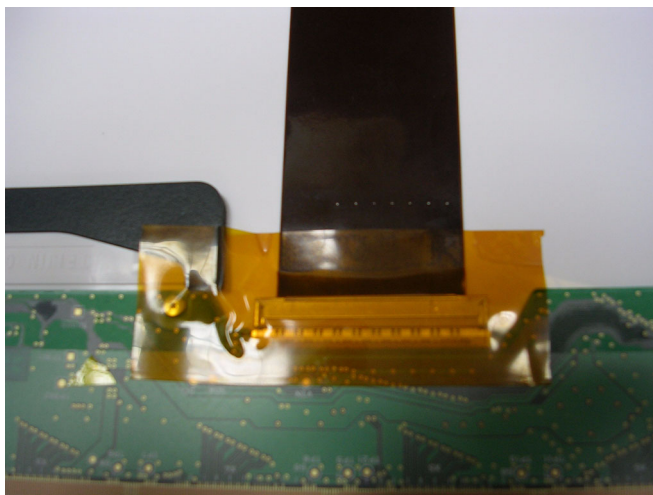

Figure 8-78 Adhering Kapton Tape on the LCD Rear Panel Connector
- 4) Adhere the kapton tape on the LCD rear panel connector, see Figure 8-78.